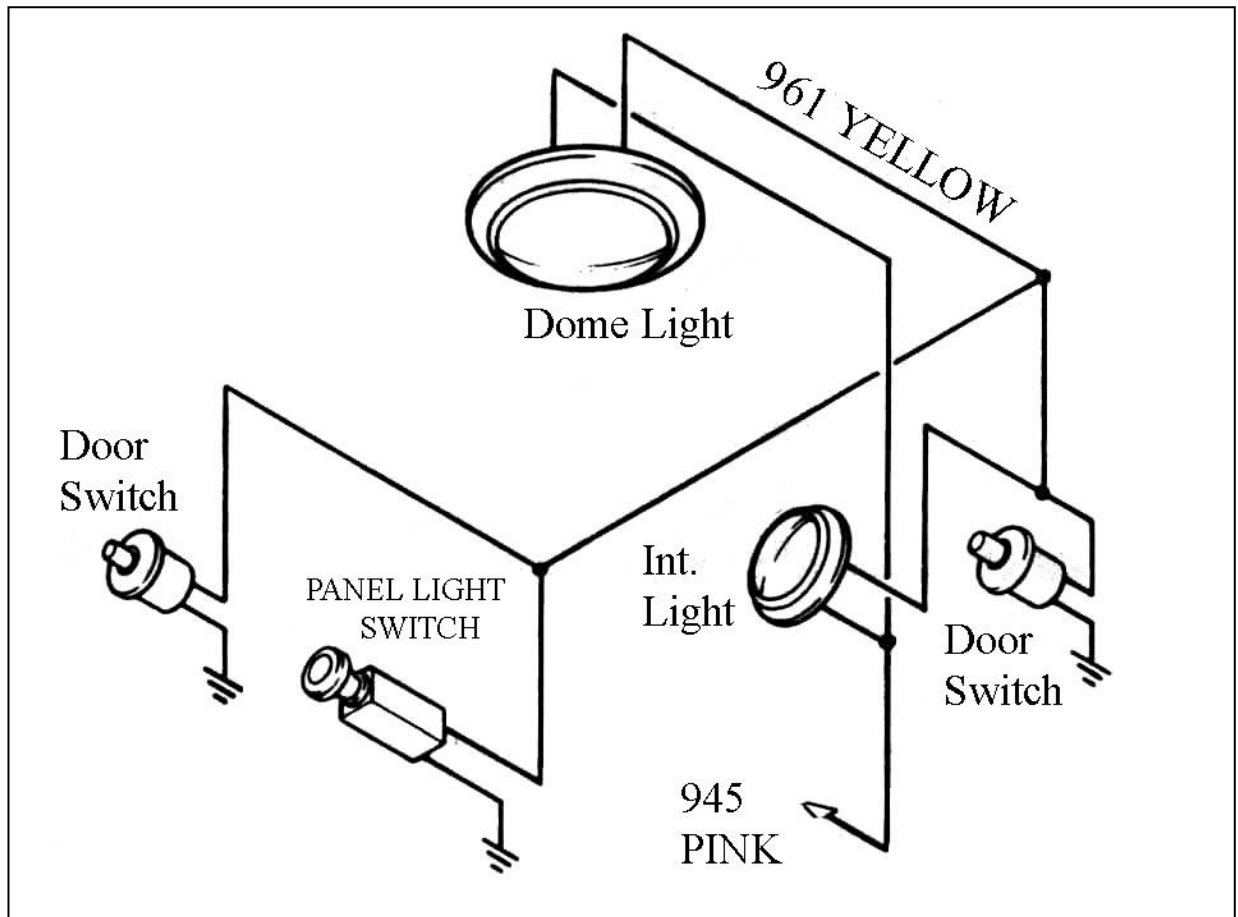

Figure 8-3 Interior Lighting
8.4 Interior Lighting. See Figure 8-3
8.4.1 Interior Lights are switched through the door switches and the dash panel light switch. These switches apply ground to the circuit. YOU WILL NEED TO SUPPLY THESE GROUND WIRES. 12V is continually present at the light bulbs. See **Figure 8-3**.